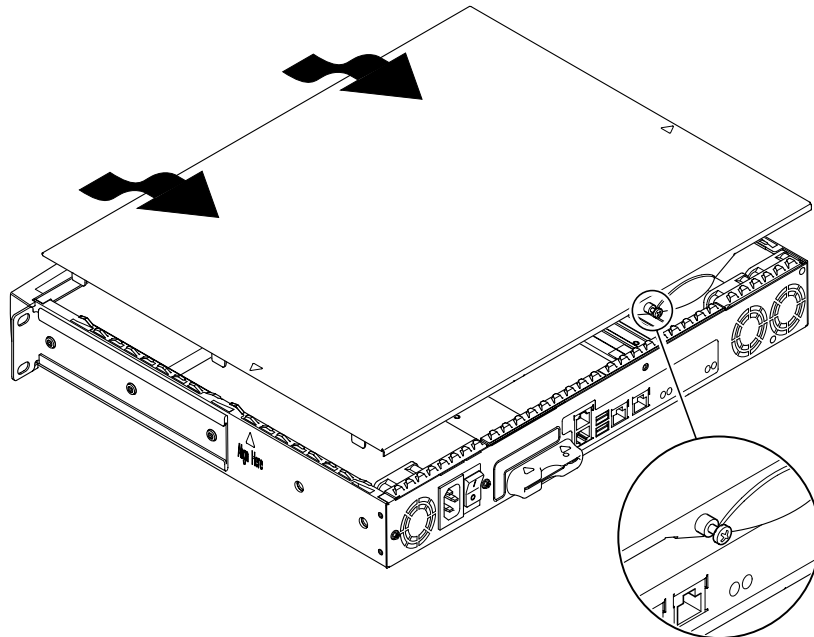

FIGURE 8-3 Removing the Top Cover
2. Unscrew the captive screw from the back of the unit (see FIGURE 8-3).